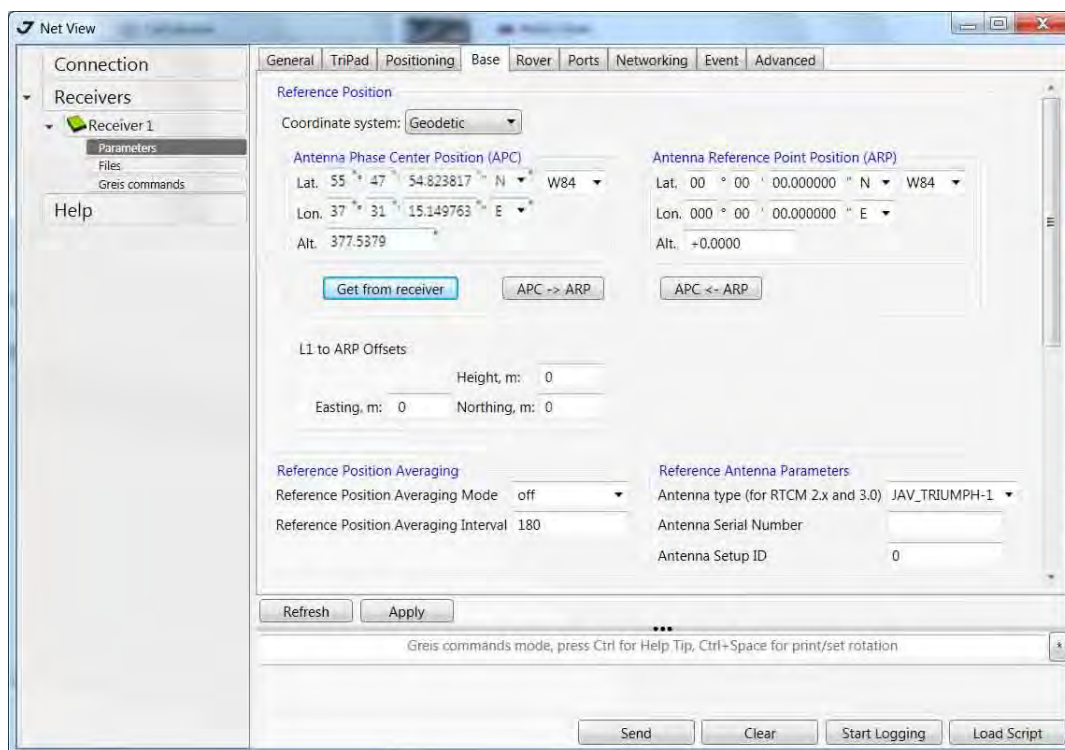

Figure 15. Base tab
6. To set up the base station, open the *Base tab* and set the following parameters (see Figure 15 on page 37):